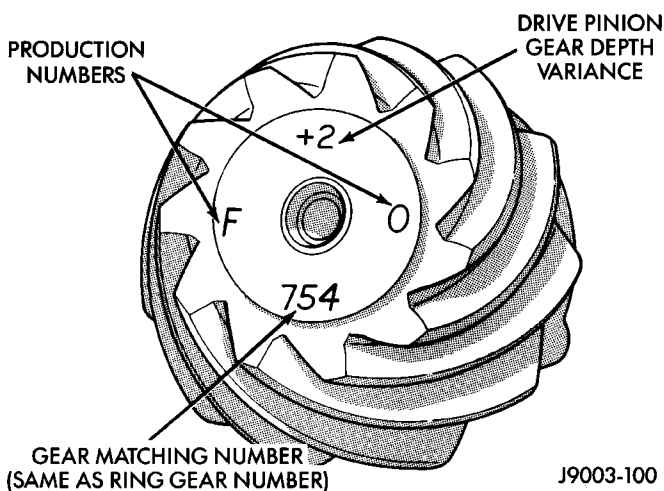

Fig. 70 Pinion Gear ID Numbers
Ring and pinion gears are supplied as matched sets only. The identifying numbers for the ring and pinion gear are etched into the face of each gear (Fig. 70). A plus (+) number, minus (-) number or zero (0) is etched into the face of the pinion gear. This number is the amount (in thousandths of an inch) the depth varies from the standard depth setting of a pinion etched with a (0). The standard setting from the center line of the ring gear to the back face of the pinion is 96.850 mm (3.813 in.). The standard depth provides the best teeth contact pattern. Refer to Backlash and Contact Pattern Analysis Paragraph in this section for additional information.
(9) Select a shim equal to the dial indicator reading plus the drive pinion gear depth variance number etched in the face of the pinion gear (Fig. 70) using the opposite sign on the variance number. For example, if the depth variance is -2, add +0.002 in. to the dial indicator reading.
(10) Remove the pinion depth gauge components from the axle housing